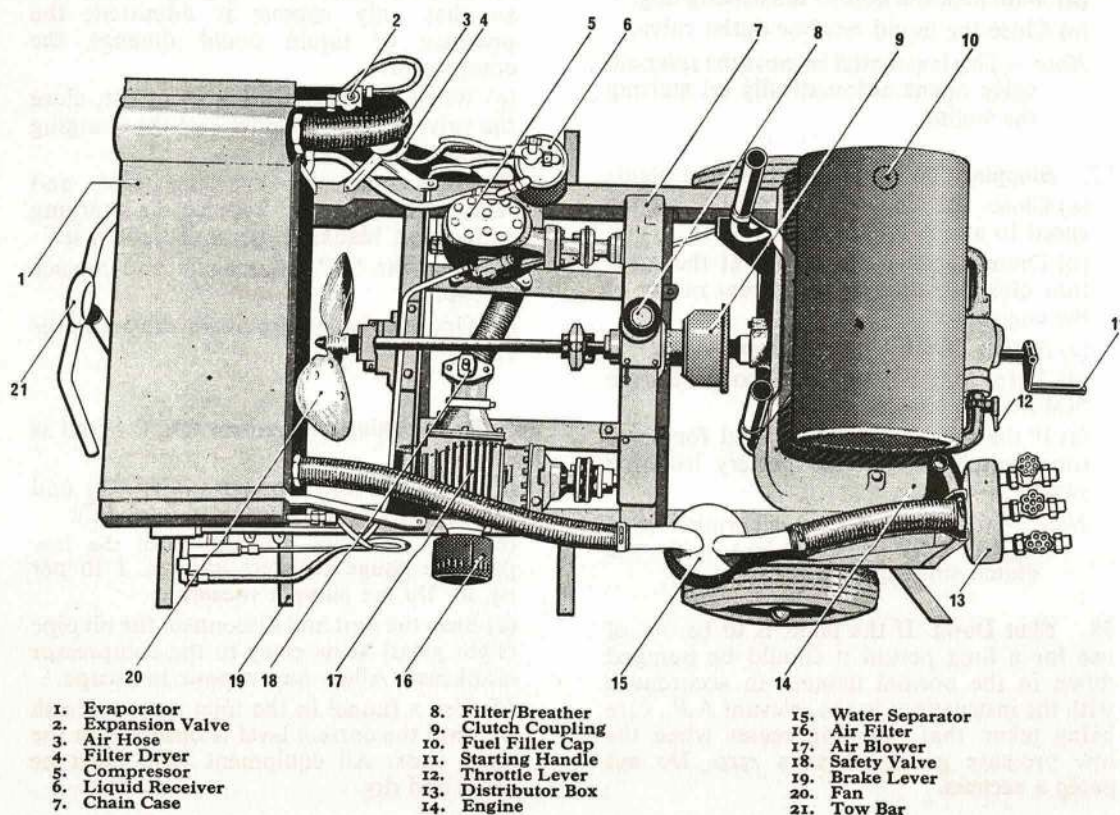

Fig. 13. AIR SUPPLY TROLLEY MK. 2
61. This equipment (Fig. 13) is used to supply relatively dry air to the ventilated suits of aircrew waiting in aircraft on the ground during warm weather. Up to three suits can be serviced at the same time, air being supplied to each suit at the rate of 8 cubic feet per minute at a pressure of $7\frac{1}{2}$ lb per sq. in.